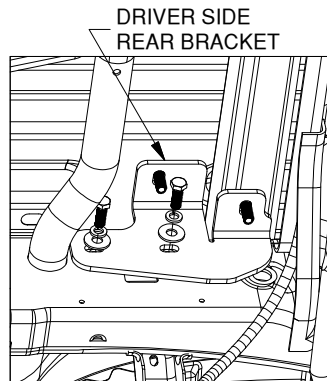

Figure C4: View looking up at driver side frame.
5. **Install the driver side rear bracket.** Locate the driver side rear bracket, two M12 x 35mm hex head bolts (shorter), two 1/2" split lock washers, and two 1/2" flat washers. Position the bracket under the installation location of the two driver side carriage bolts. Maneuver the bracket so that the 1/2" carriage bolts passes through the slots at the top of the bracket. Using 1/2" lock washers and 1/2" flat washers, thread the shorter (35mm) M12 hex head bolts into the frame through the holes in the bracket, see Figure C4.